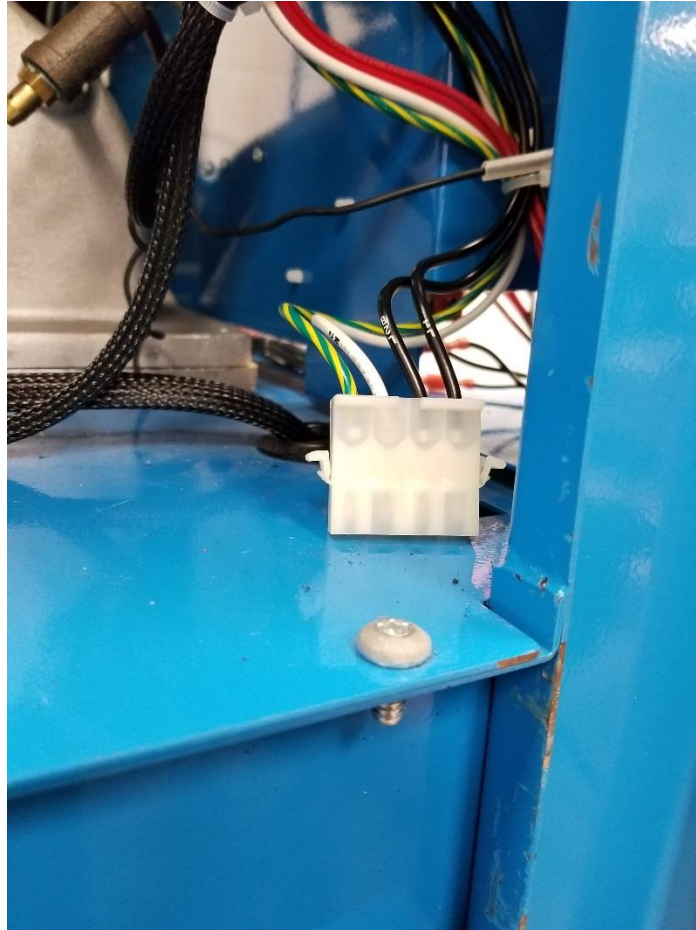

Figure 2
6. Make sure to disconnect 120V plug shown in figure 2.